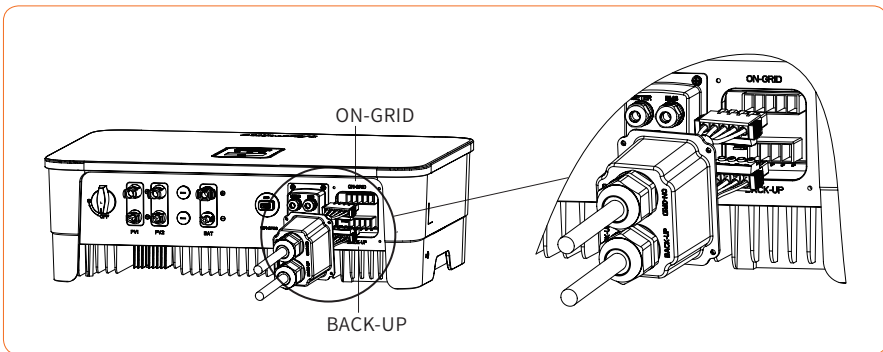

Figure 4-31
⑤ Insert the assembled AC connector to the corresponding AC port in the inverter, as shown in Figure 4-31: